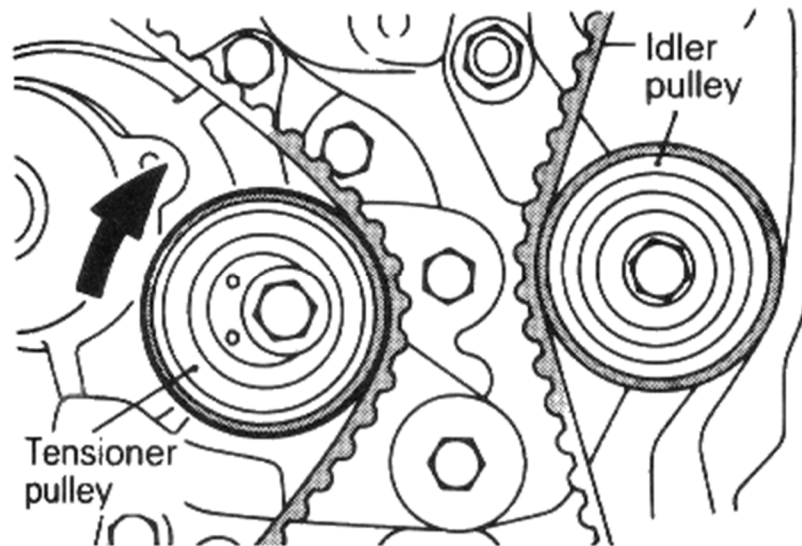

Figure 15
32. Rotate the tensioner pulley in a clockwise direction and tighten the center bolt (Figure 15).